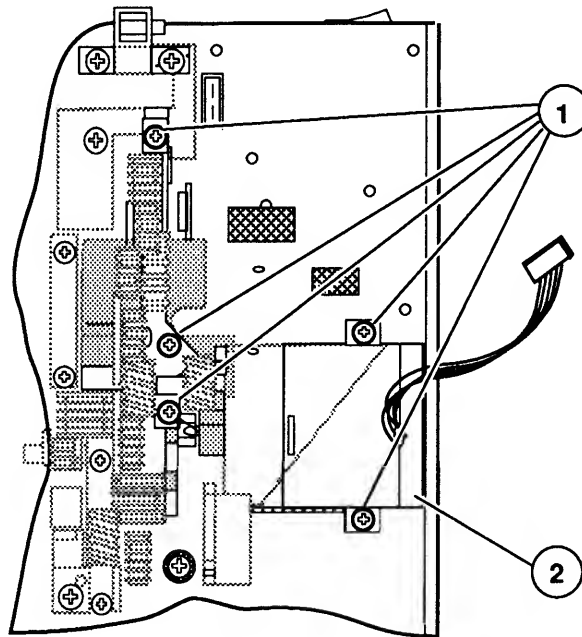

FIGURE 38
2. Remove the five screws (Figure 38, #1) securing the main motor assembly (Figure 38, 2) to the chassis.